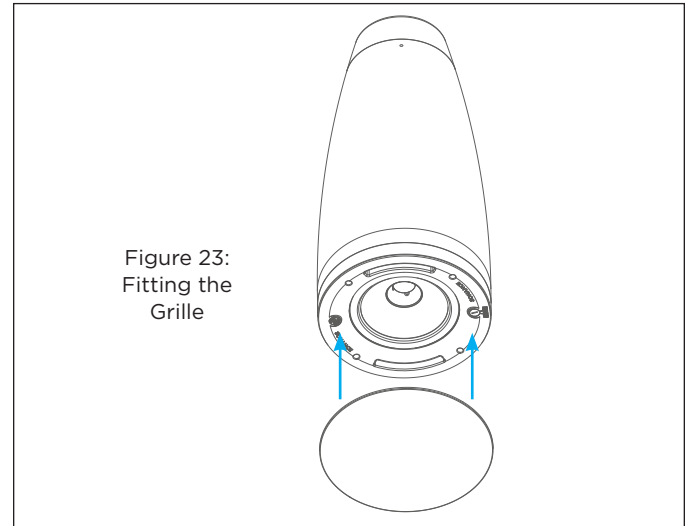

Figure 23:
18. Fit the grille onto the speaker (see Figure 23).